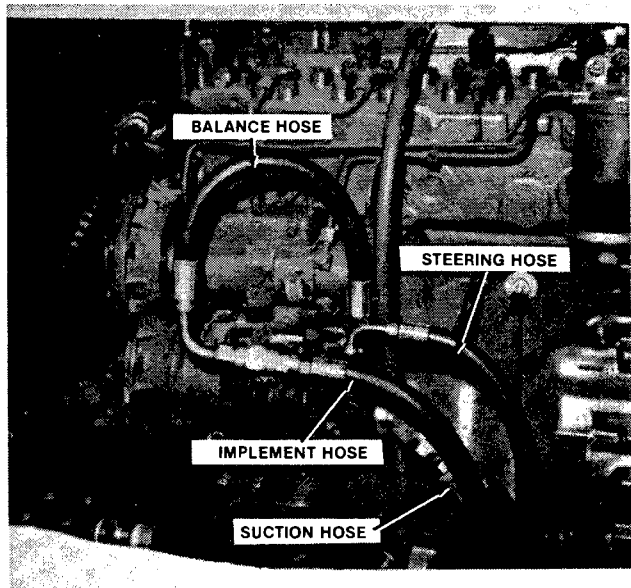

FIGURE 2-5: Hydraulic Pump Hoses
22. Disconnect hydraulic suction, implement and steering hoses from hydraulic pump. Cap ends and label. Elevate hoses clear of engine. Leave balance hose on hydraulic pump and pump with engine (Figure 2-5).